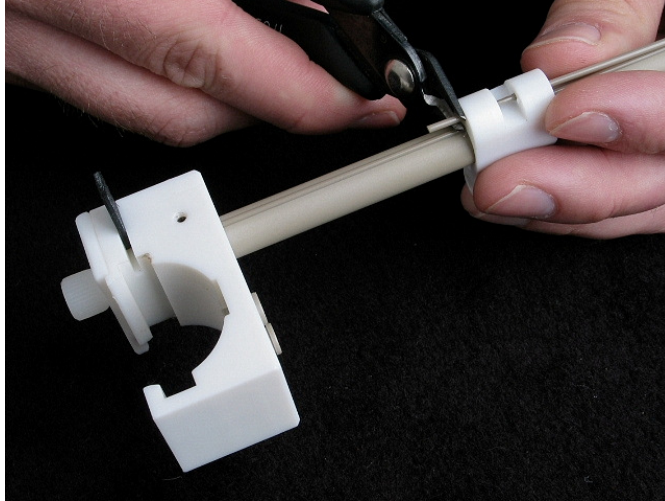

Figure 4. Cutting the Excess Peek Tubing
9. Cut the excess peek tubing at the bottom of the slider (Figure 4).